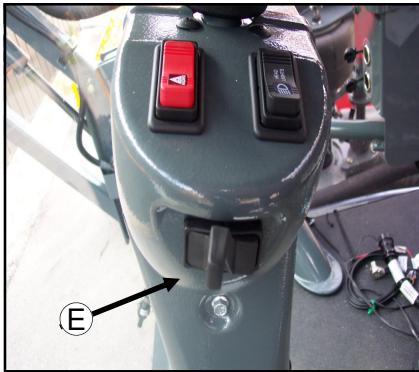

FIG. 18-2
**TURN SIGNALS**– To activate the front turn signals (fig. 19-3) and the rear turn signals (fig. 19-4 and 5), move the turn signal lever (fig. 18-2, item E) forward , away from the operator, to signal a right turn and back, toward the operator, to signal a left turn. Steering column– mounted turn signal indicators will correspondingly flash when either turn signal is activated. The turn signal switch is not a self– centering switch; you must return it to the “OFF” position by